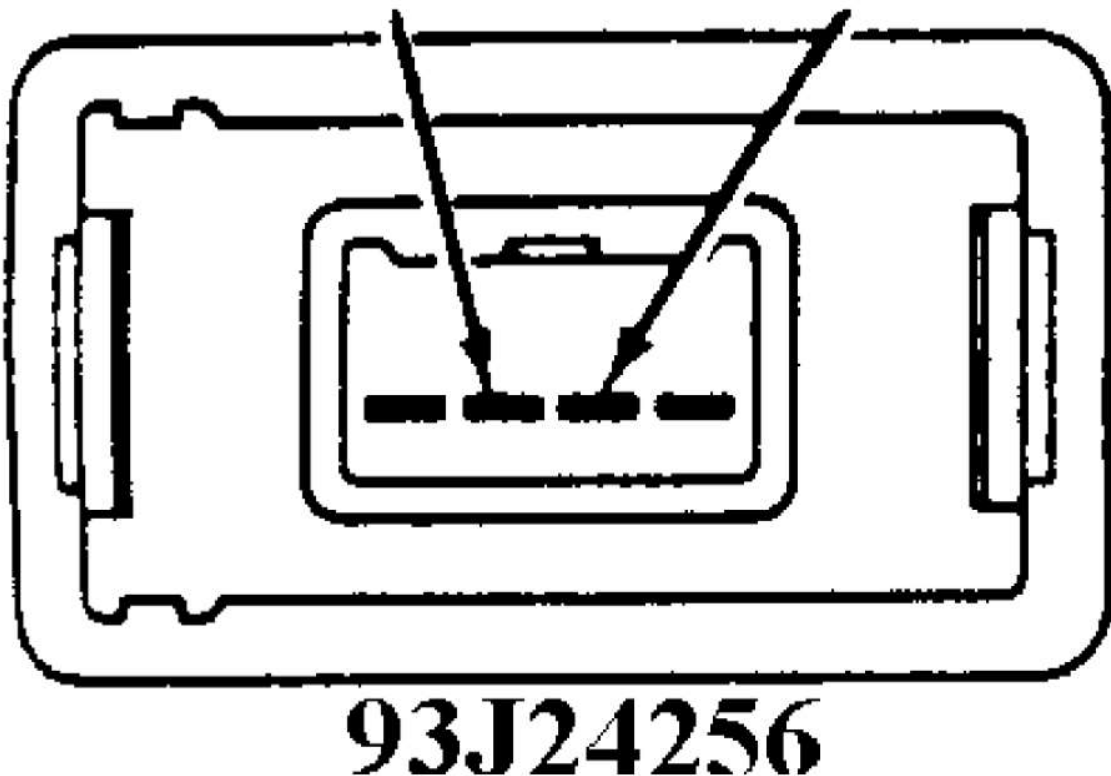

Fig. 29: Pattern Select Switch Terminals
1) Disconnect electrical connector from pattern select switch, located near shift lever. See Figs. 1-2. Note terminal identification on pattern select switch. See Fig. 29.